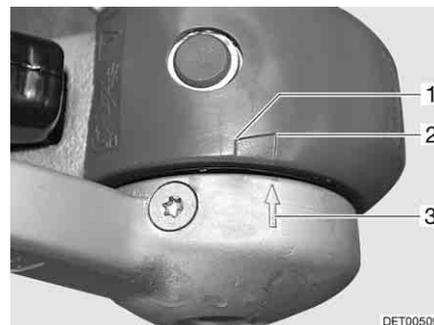

Fig. 210 Friction pads
- If the arrow on the pressure pad (Fig. 210,3) is in front of or on the marked surface (Fig. 210,2), then the friction pads are still in good condition.
- If the arrow on the pressure pad is within the marked surface (Fig. 210,1 to 2), then the friction pads are slightly worn.
- If the arrow on the pressure pad is at the end of the marked surface (Fig. 210,1) or exceeds it, then the friction pads are worn.